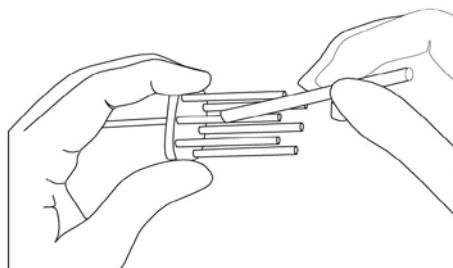

Figure F.1.3c: Re-lubricating 125 - 12.5 µl Pipettes
- 125 µl, 30 µl, 12.5 µl Pipettes: Spread the lubricant directly onto the pistons, approximately 0.5 inches (approx. 1.3 cm) from the bottom of each piston (see Figure F.1.3c).